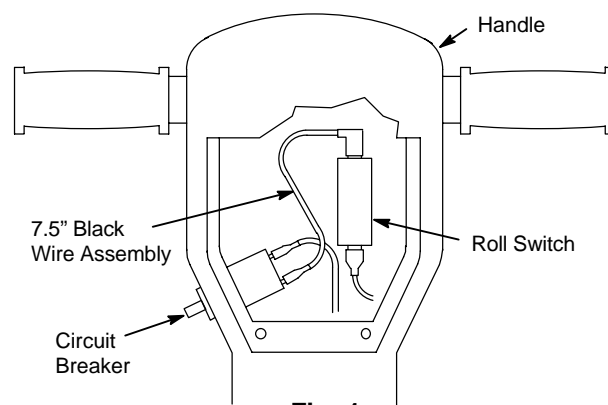

Fig. 1
2. Remove panel from handle to access internal wiring (Figure 1).
3. Replace wire as indicated with new 7.5 inch black wire assembly. Replace handle panel (Figure 1).